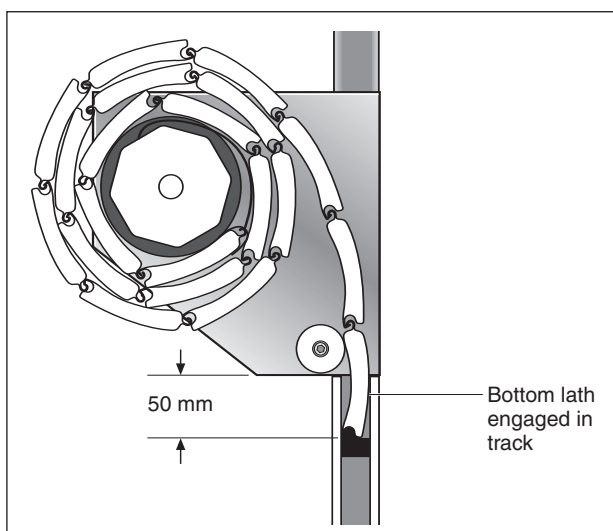

Fig 26 Fully open position
**IMPORTANT** see Fig 26 for correct OPEN position.